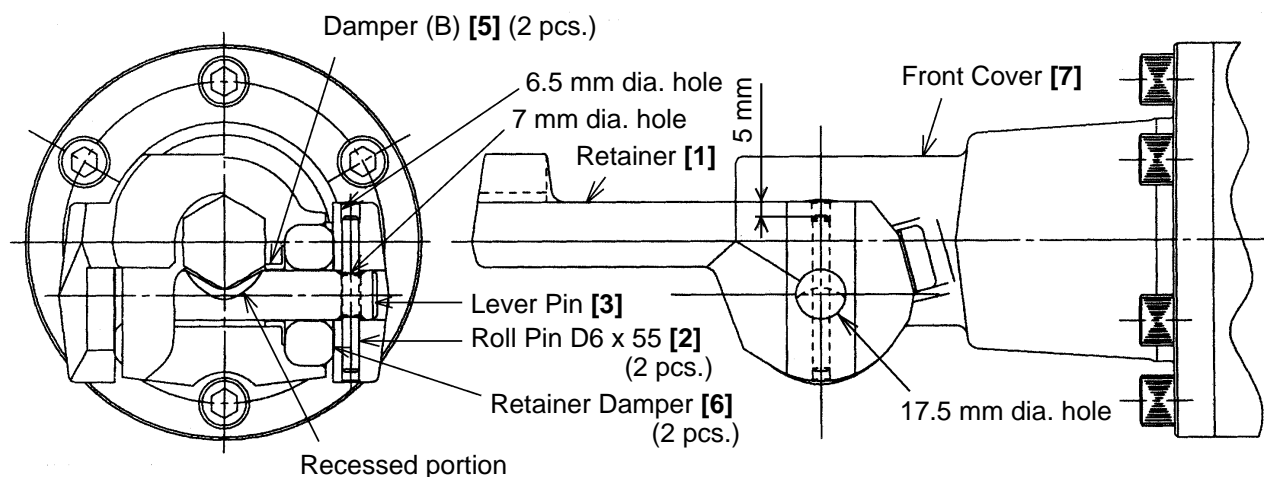

Fig. 19
Before reassembly, apply grease (Doubrex #251 Part No. 980757) to the sliding portion between the Retainer [1] and the Retainer Damper [6] of the Front Cover [7], Damper (B) [5] and Lever Pin [3]. Mount the Damper (B) [5] and the two Retainer Dampers [6] to the Front Cover [7] and then mount the Retainer [1]. Insert the Lever Pin [3] into the 17.5 mm dia. hole of the Retainer [1] facing the recessed portion of the Lever Pin [3] to the hexagonal hole of the Front Cover [7]. At this time, align the 6.5 mm dia. hole of the Retainer [1] with the 7 mm dia. hole of the Lever Pin [3]. Drive the Roll Pin D6 x 55 [2] into the 6.5 mm dia. hole of the Retainer [1] approximately 5 mm under the end surface of the Retainer [1] (Fig. 19).